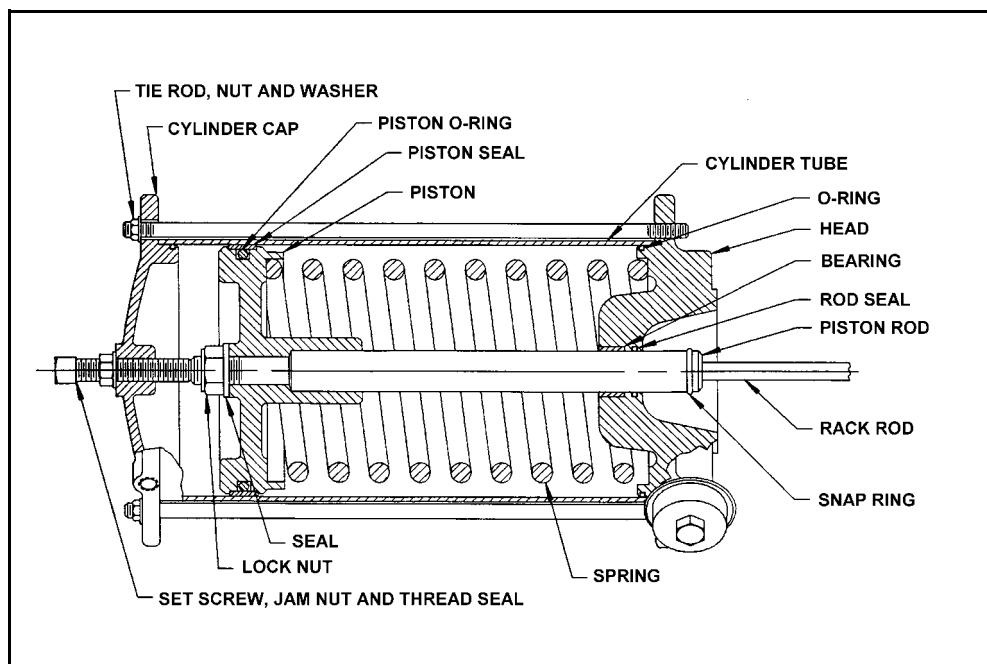

Figure 3— Cylinder Parts Location
8. Loosen the jam nut and remove the set screw in the cylinder cap. See Figure 3 for parts identification.